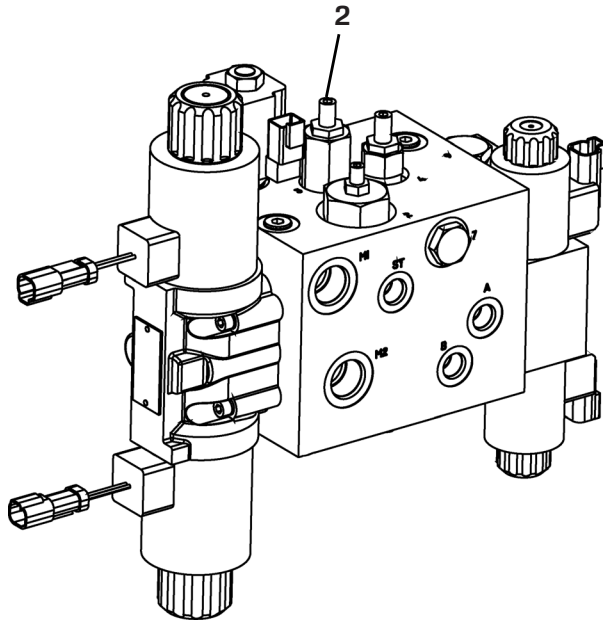

Figure 7-10
1. Remove hose from manifold port M1 (Figure 7-10, 1).